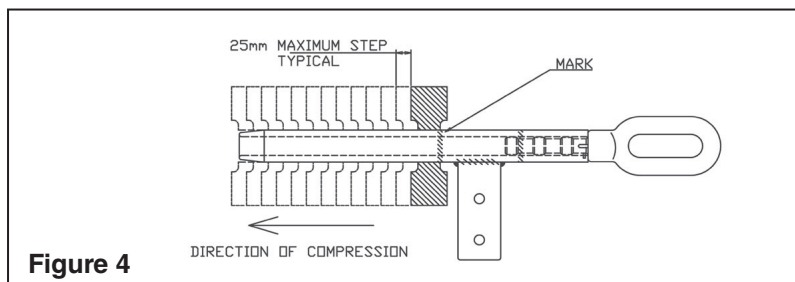

**Figure 2**
- 9) Slide the aluminium body over the steel until it touches the shoulder of the steel eye. At this point also position the eye orientation correct with the direction of the jumpers. **(See figure 2)**